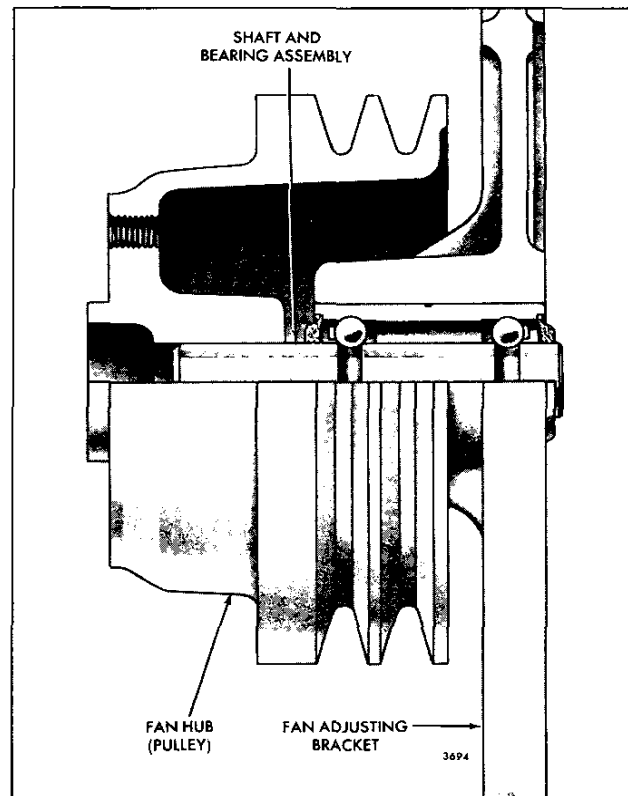

Fig. 3 - Ball Bearing Type Fan Hub Assembly
1. Refer to Fig. 3 and measure the distance between the rear face of the rim on the pulley and the rear face (machined) of the fan adjusting bracket. Record this measurement for reassembly purposes.